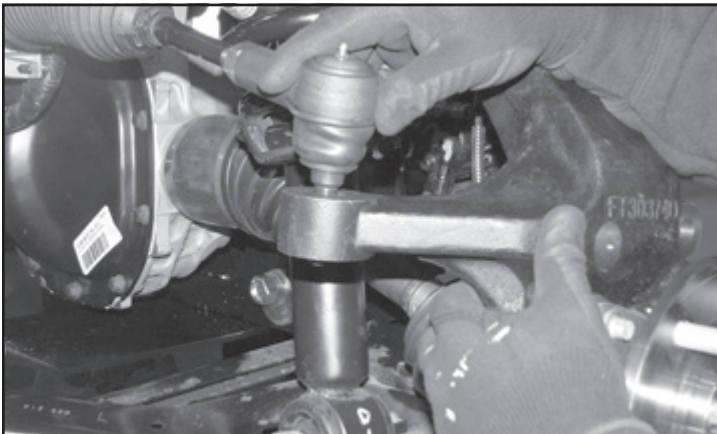

FIGURE 51 - STEP 54
54. Reconnect the tie rod end to the steering knuckle and torque to 60 ft-lbs. **SEE FIGURE 51**